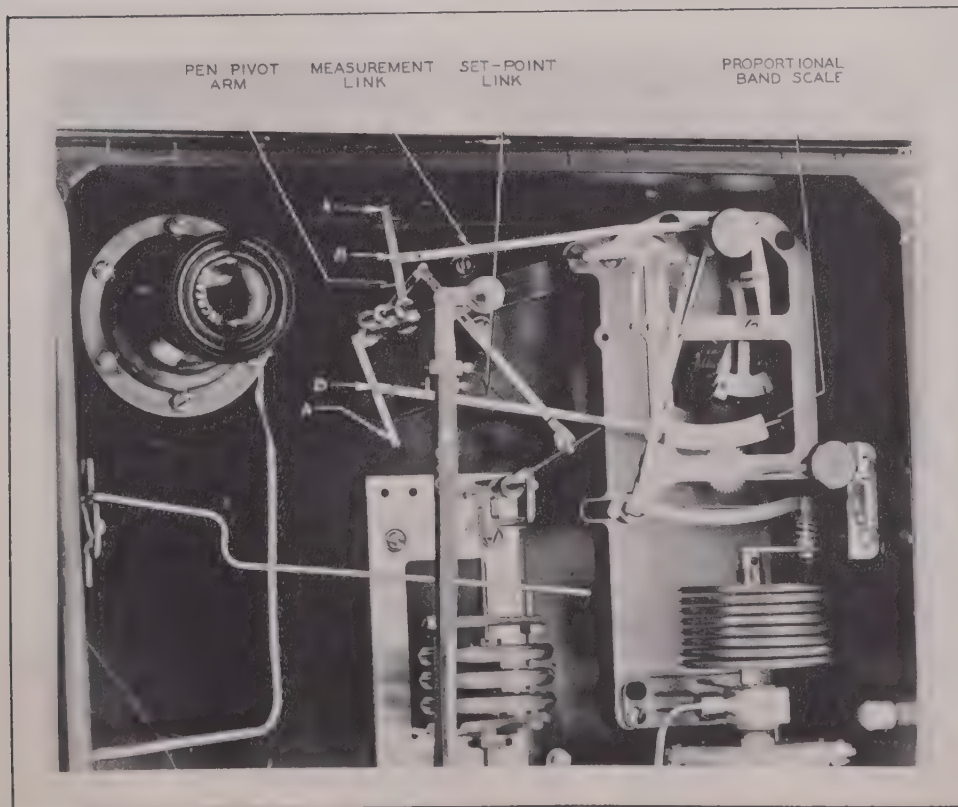

FIGURE 4. UPPER HALF OF SERIES 500W CONTROLLER SHOWING DOUBLE-BAND LINKAGE IN DOUBLE-BAND POSITION (400% PROPORTIONAL BAND POSITION)
a. How to change from 200% to 400% proportional band width. Change measurement link and set-point link to positions shown in Fig. 4. This change can be made in a few minutes with only the aid of a small screw driver. The